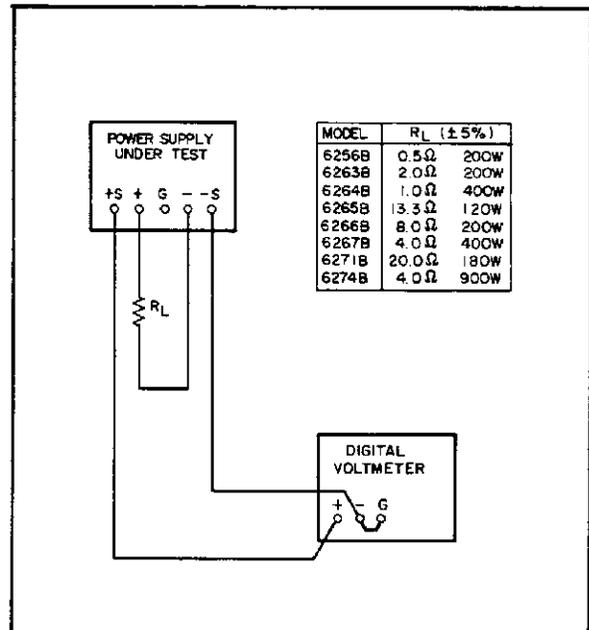

Figure 5-1. Constant-Voltage Load Regulation Test Setup
- a. Connect load resistor ( $R_L$ ) indicated in Figure 5-1 across output terminals of supply.
- a. Connect test setup shown in Figure 5-1.
- Connect load resistance and digital voltmeter as illustrated in Figure 5-1.